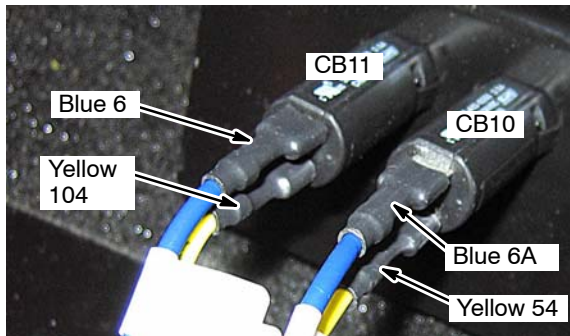

Fig. 6
4. Connect the routed *ec*-H₂O harness wires to the two circuit breakers as shown (Figure 6).